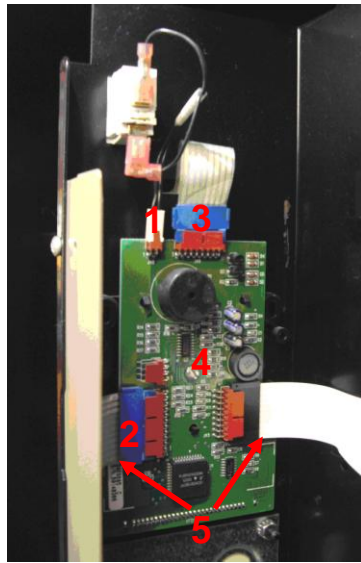

Figure 5
9. Unplug (1) J48 door interlock switch, (2) J46 selection keypad and (3) J49 Service keypad from Display PCB located on the back side of the monetary panel. Remove the (4) Display PCB and ribbon harness by removing the (5) two ¼" HEX screws securing the display mounting bracket. The screws are located behind the ribbon cables as shown. Also remove the top two screws securing the plastic frame of the selection keypad and display lens. DO NOT DISCARD THE SCREWS OR DISPLAY MOUNTING BRACKET. See figure 5.